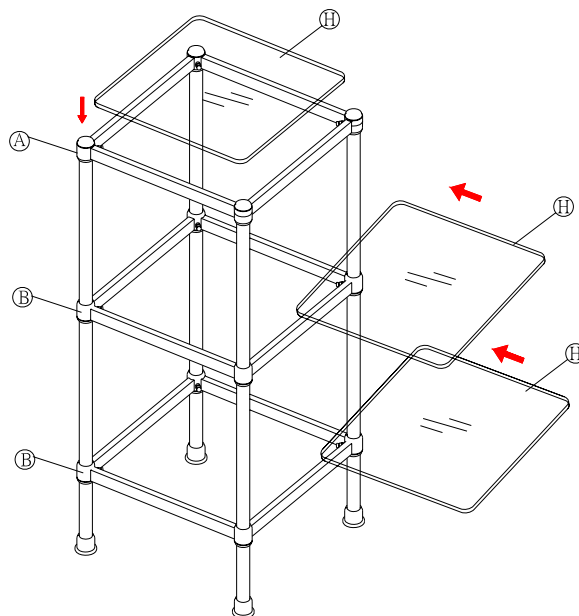

Fig. 5
8. Hold the glass shelves (H) in a slightly tilt angle and insert them to the frame. Gently rest the shelves onto the shelf pegs (Fig. 5).